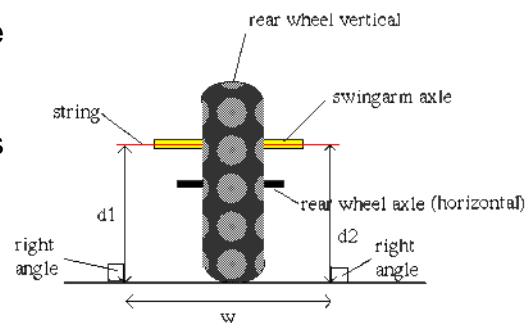
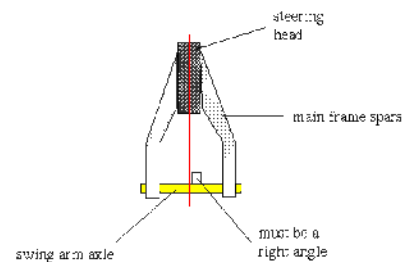

Fig. 2 Rear View
Fig. 3 Front View
The distance, as measured along the ground, of the point at which the front tire contacts the ground and the axis of rotation (see above) would contact the ground. For a conventional design this means visualizing the continuation of an imaginary line through the center of - and parallel to - the steering head tube that extends to contact the ground a few inches in front of the bike. Then, simply measure the distance between this contact point and the center-point of the tire's contact patch (vertically straight down from the front axle). Note that in an accurate measurements of trail, the wheels need to be aligned as defined above (see figure 2 below).
However, zero offset will not yield zero trail. In that case the trail is a function of the rake and the diameter of the front tire only. The geometry is shown in figure 2.
Begin by placing the bike on it's center stand, or better yet, support it via wood or stone blocks from both sides as per figure 3.
With the wheels aligned, put the drop line on the rear tire just as before, and measure gap `a_r' just as before. Also measure distance `s_r' in figure 3.
The next step is to look at the chassis itself and determine if the frame, forks or swing arm are straight. This step is also the next step if a proper wheel alignment results in the wheels being out-of-plane as in Fig 2 of part 1 of our article. Just because the wheels and sprockets align doesn't mean that the chassis is straight - the wheels must be in a single plane as well (as described in part 1). Referring to figure 3 of Part 1, this means that the angle
The first check is to see if any of the axles are bent: either roll them on a flat surface or hold a straight edge along them, turning the axle in the process to at least two different spots. The next check is to see if the swing arm is bent. The most common way for the swing arm to be bent is a twist in the cross tube - imagine standing behind the bike, taking hold of the swing arm legs and pushing one down and the other up. This would result in a twist of the cross tube. An easy way to discern this without dismantling anything is as follows: Referring to figure 2, and with the sprockets and wheels aligned (or as close to it as possible with the suspect bent chassis), get the rear wheel vertical to ground, using a carpenter's level or the string method. Next see if the swing arm axle is horizontal - you can do this by either feeding a string or straight rod through the swing arm axle (if hollow) and holding a level along the string, or by measuring the distance d1 and d2 of figure 2 from the axle center to either a flat and level ground or to a carpenter's level that is set up on the ground in a horizontal position, perpendicular to a line connecting the front and rear tires.
Your swing arm is straight enough if the twist angle is less than 1 degree, that is if the difference in the distance d1 and d2 of figure 2 from the axle center to horizontal is less than
Checking any frame is not a conceptually difficult part in so far as there are only two important dimensions involved (apart from making sure that none of the motor mounts, seat mounts, etc. are bent). A frame's function is basically to connect the steering head and swing arm pivot points in as rigid and economical a manner as possible and also to provide mounting points for various ancillaries. For our purposes, the question of whether the chassis is aligned or not condenses now to whether the frame's steering head is perpendicular to the swing arm axle. The inclination of the steering head with respect to the ground (the steering head angle) is also important for the handling of the machine but will not affect anything we've discussed above as far as wheel alignments and such are concerned. We will return to the question of measuring the steering head angle in part 3 of this series of articles. We therefore represent the frame as in figure 3.
Figure 3 shows that the steering head must lie in a plane normal -- that is perpendicular -- to the swing arm axle. It is not generally required that this plane intersect the swing arm axle in the center of the axle, 1/2 way between the frame spars. Some machines have asymmetrical frames with respect to the center of the swing arm axle. However, in all cases, the steering head **MUST** lie in a plane normal to the swing arm axle. In addition, for a perfectly aligned chassis, the steering head must lie directly vertically above a line connecting the center of the tire contact patches when the wheels are aligned and vertical.
Step 1: Extend the fork completely and measure from the wiper (the dust seal atop the slider) to the bottom of the triple clamp (or lower fork casting on inverted forks; Figure 2). This measurement is L1.